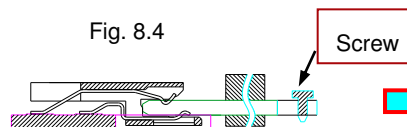

Fig. 8.5
**Step 4th:** Insert the module until it touches the bottom surface of the housing, and then fix the module with PCB by screw (Fig. 8.5).